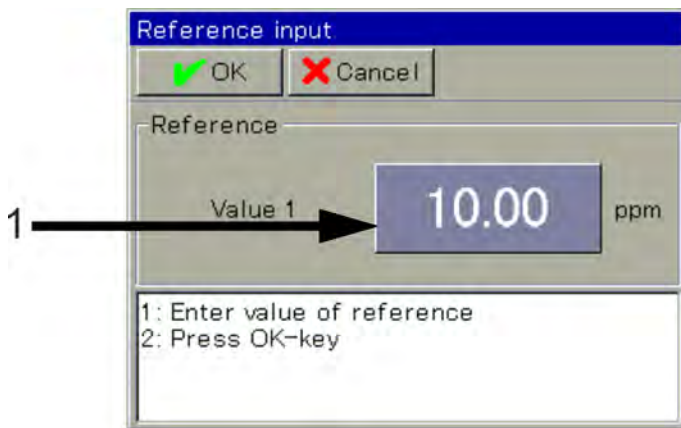

Fig. 82: To enter the reference value of the test solution, tap the button (1)
3. Enter the reference value of the test solution. Confirm with "OK" (See Fig. 82 .)